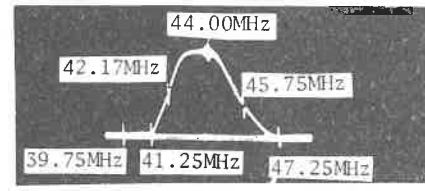

FIG. 2
39.75MHz 41.25MHz 42.17MHz 44.00MHz 45.75MHz 47.25MHz	Adjust T101, T104 (Top & Bottom), T105 (Bottom), and VHF IF OUTPUT for MAXIMUM gain and symmetry of response. See Figure 2. Adjust T105 (Bottom) for placement of 44.00MHz and 45.75MHz markers. Adjust VHF IF output for placement of 42.17MHz and 44.00MHz markers. Adjust T101 for tilt at 44.00MHz. Adjust T104 (Top) for placement of 42.17MHz and 45.75MHz markers. Adjust T104 (Bottom) for overall response. See Figure 2.